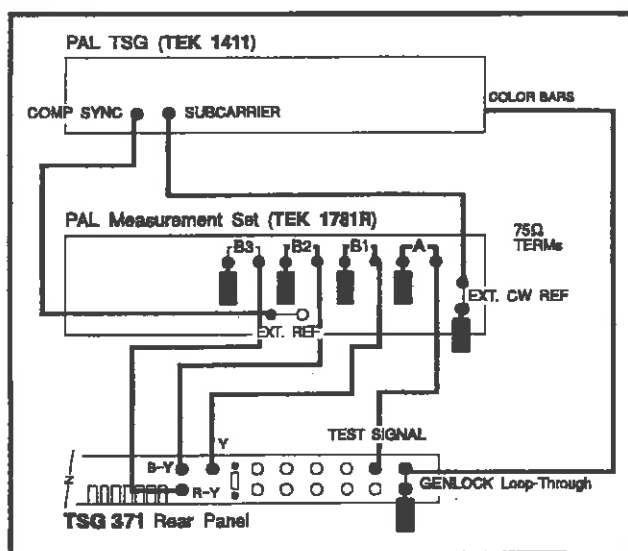

Fig. 5-4. Setup to check the vertical timing range.
- a. Connect the test equipment as shown in Fig. 5-4. Select the Pluge signal from the front panel of the TSG 371.